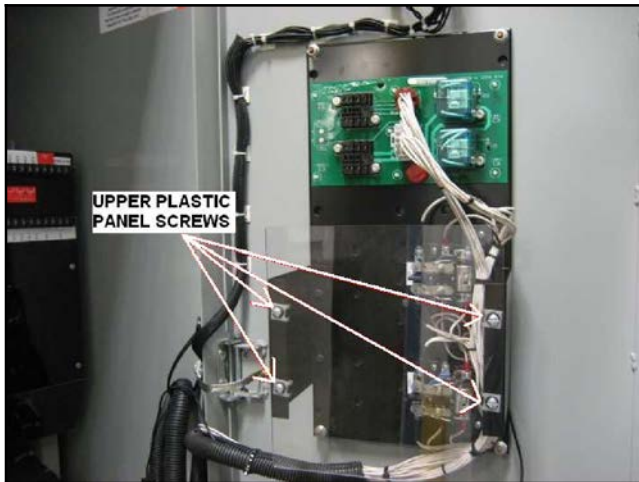

Figure 39 Remove Plastic Cover on Interface Panel
33. Remove the plastic cover from the interface panel components on the upper door. See Figure 39.